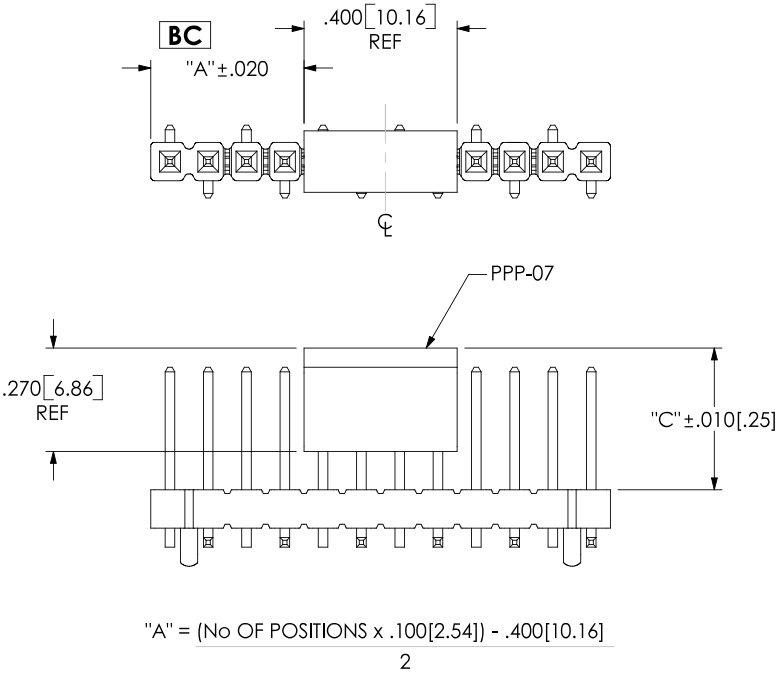

FIG. 2
- A: ALIGNMENT PIN (SEE FIG. 2)